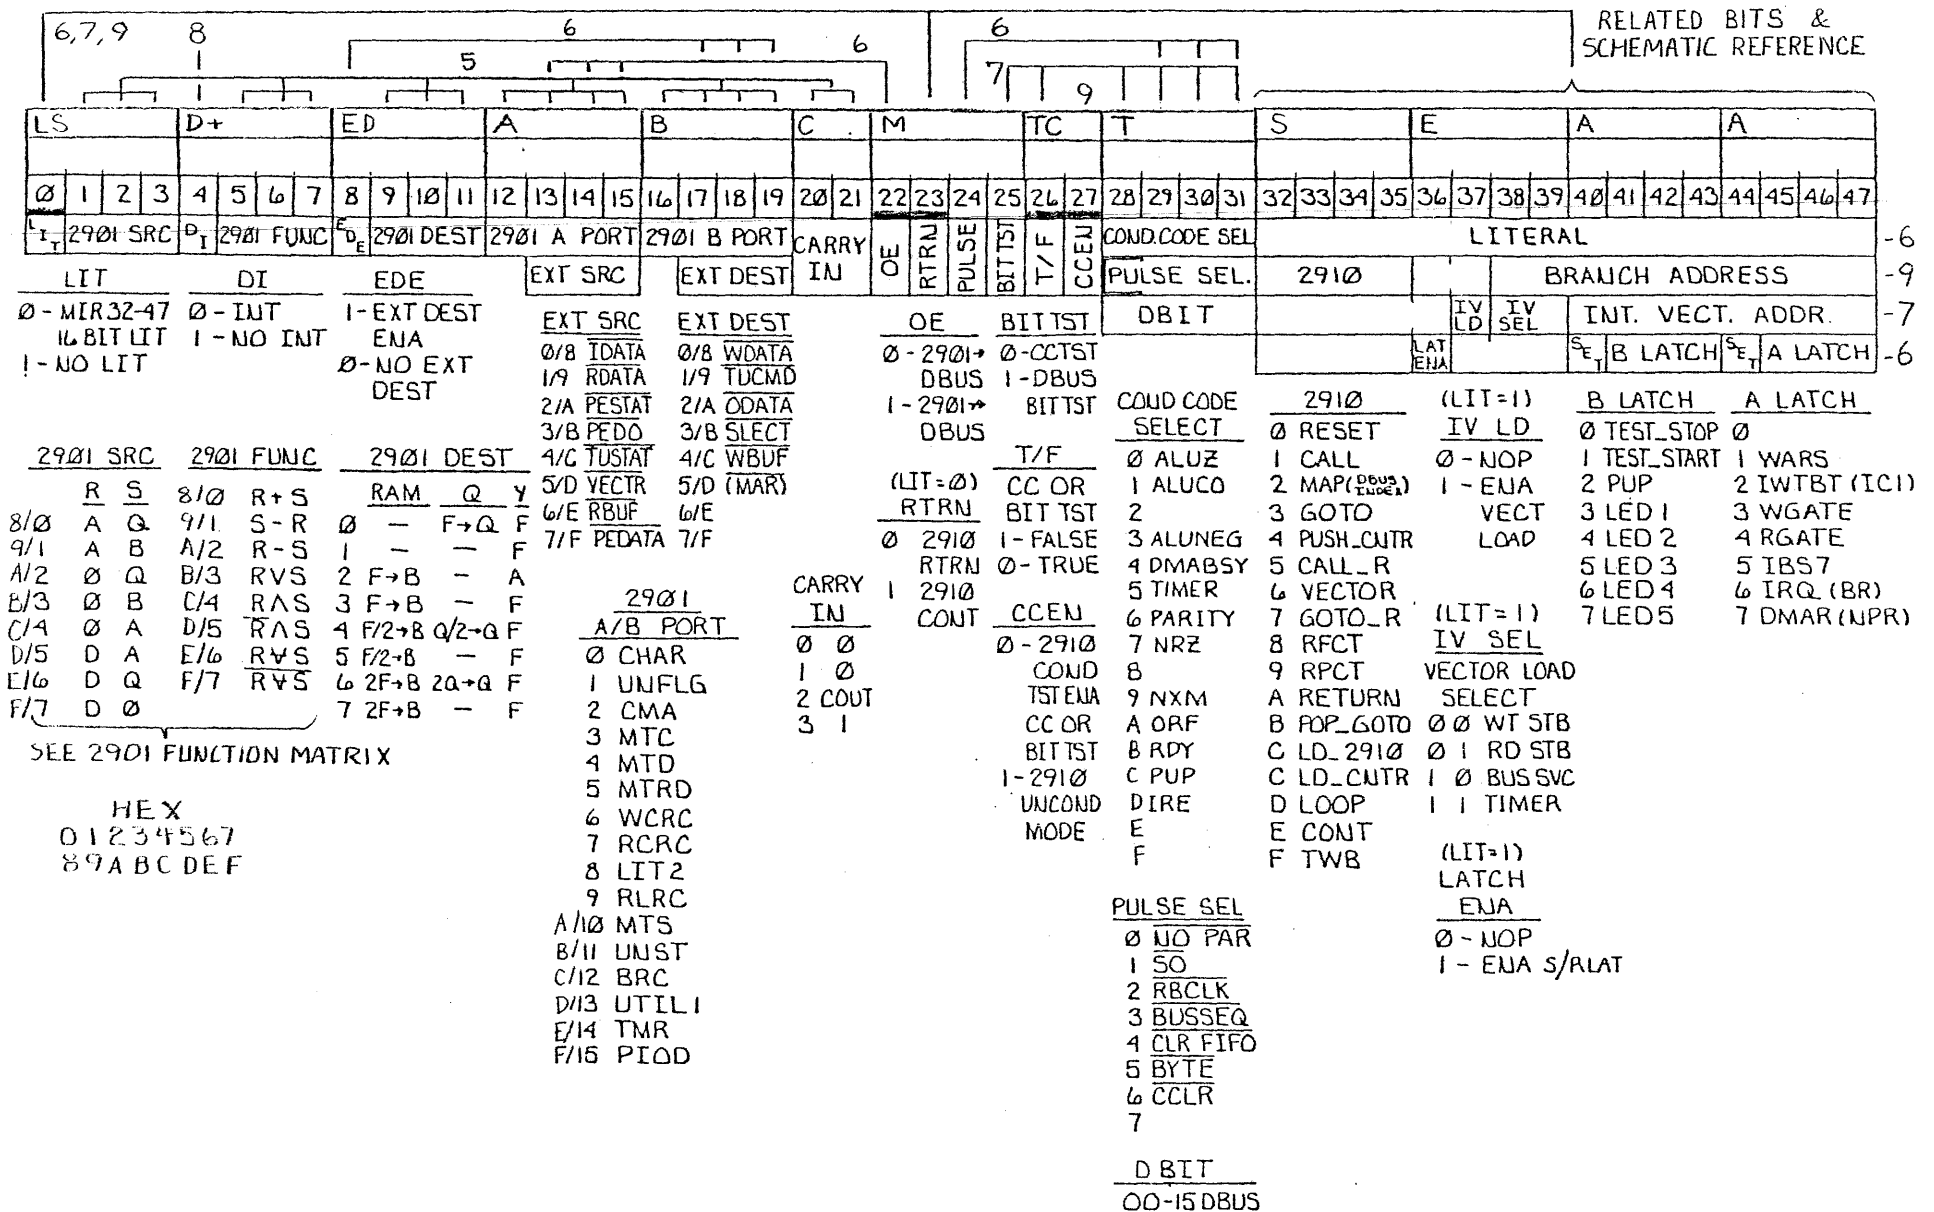

FIGURE 5.1 MICRO INSTRUCTION FORMAT
5.2 The 48-bit microinstruction word is shown in Figure 5.1. The origin of the MIR signals is an array of PROMS labeled collectively the Control ROM (CROM) located on Sheet 11 and 12 of the logic diagrams. The CROM array is addressed by the 10-bit CSA bus.